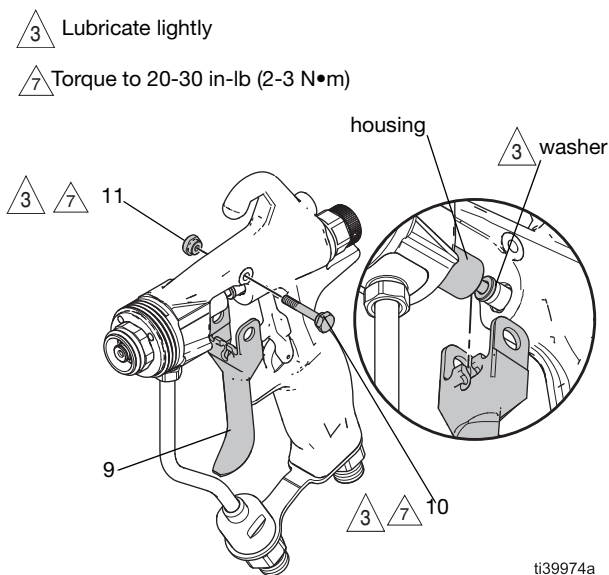

FIG. 44: Trigger placement
Clean u-cup sealing surface of gun handle	Cleaning Procedure , page 22. FIG. 44 on page 30
- Thread the cartridge 1-2 turns into the gun body until the trigger assembly (9) can fit between the needle washer and housing. See FIG. 44: Trigger placement, page 30.
- Install the trigger (9), trigger pin (11) and trigger nut (10) in front of the washer. See **Install the Trigger**, page 30.